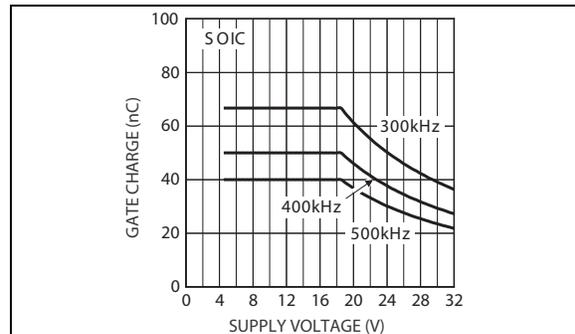
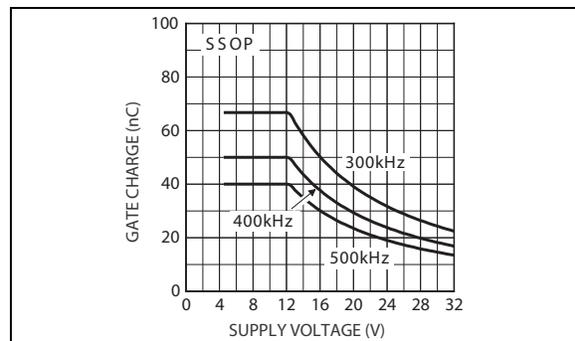

FIGURE 4-9: SOIC Package Device MOSFET Gate Charge Driving Ability vs. Input Voltage.
FIGURE 4-10: SSOP Package Device MOSFET Gate Charge Driving Ability vs. Input Voltage.
- Higher power dissipation in the internal  $V_{DD}$  regulator. This occurs because the MOSFET gates require charge to turn on the device. The average current required by the MOSFET gate increases with switching frequency. This increases the power dissipated by the internal  $V_{DD}$  regulator. Figure 4-9 and Figure 4-10 shows the total gate charge which can be driven by the MIC2182 over the input voltage range, for different values of switching frequency. The total gate charge includes both the high-side and low-side MOSFETs. The larger SOIC package is capable of dissipating more power than the SSOP package and can drive larger MOSFETs with higher gate drive requirements.
A convenient figure of merit for switching MOSFETs is the on-resistance times the total gate charge ( $R_{DS(ON)} \times Q_G$ ). Lower numbers translate into higher efficiency. Low gate-charge logic-level MOSFETs are a good choice for use with the MIC2182. Power dissipation in the MIC2182 package limits the maximum gate drive current. Refer to Figure 4-9 and Figure 4-10 for the MIC2182 gate drive limits.